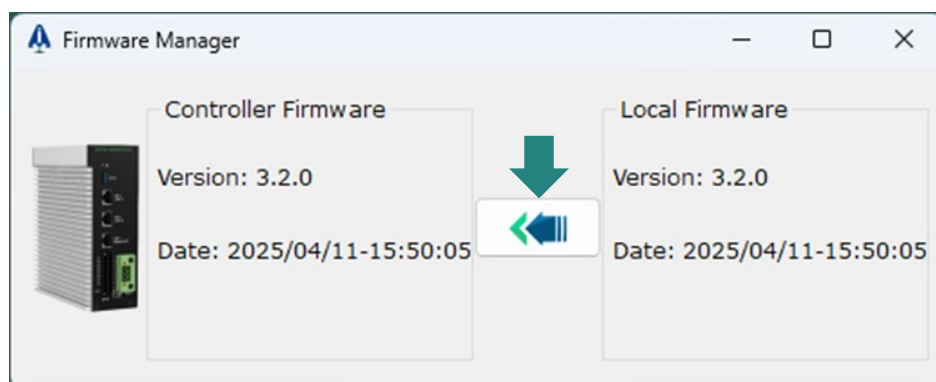

Figure 2.6.3 Firmware Manager
Step 1: Click on the button indicated in figure 2.6.3. After the button is clicked on, a question dialog will appear.